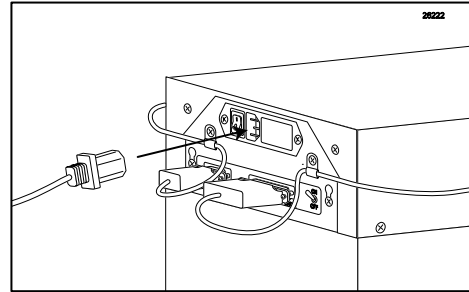

Figure 151
3. Connect the power cord to the port on the Electronics Board. (See Figure 151.)